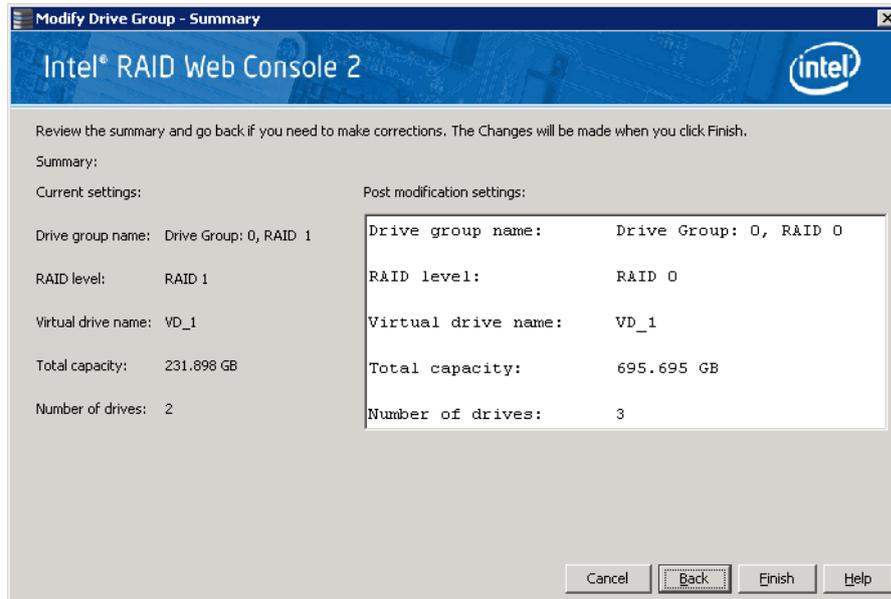

Figure 119. Changing RAID Level
4. When you are finished removing disk drives, click **Next**. The next screen displays, which allows you to review the summary and go back if you need to make corrections as shown in Figure 119.